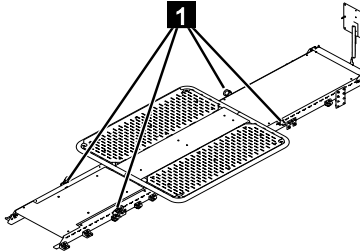

Fig. 265
1. Tighten attachment points (Fig.265/1) with the correct torque (→ Chapter 8.4.3 „Tightening torques”, on page 203) and check for damage and movability. Replace if necessary.